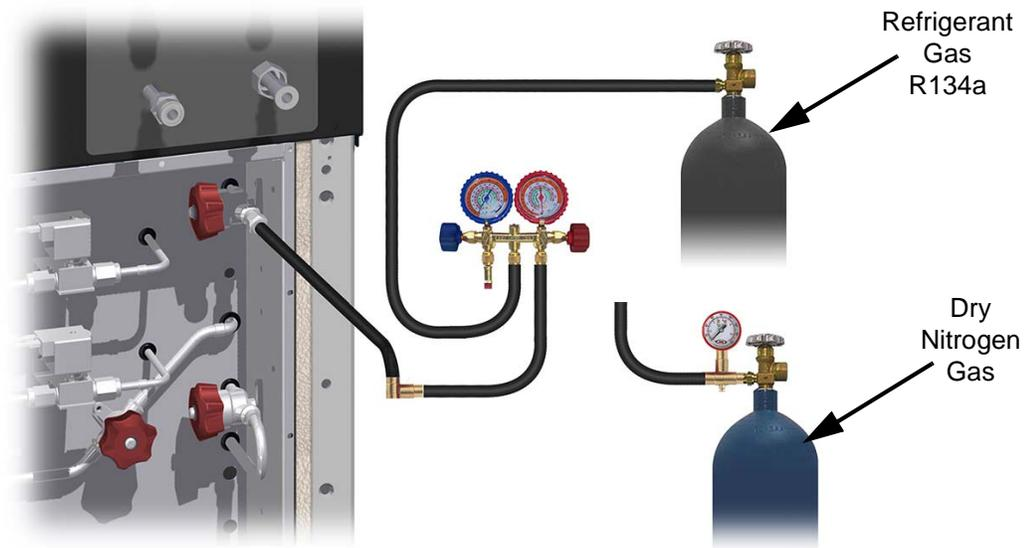

Figure 4-21: Leak Check - Add "Trace" Refrigerant
Refer to Figure 4-21 and Figure 4-22 for the following steps.
2. Connect the manifold's suction (low pressure) hose to the evacuation valve inside the valve box. See Figure 4-21.
- Connect the nitrogen cylinder to the center port of the manifold. See Figure 4-21.